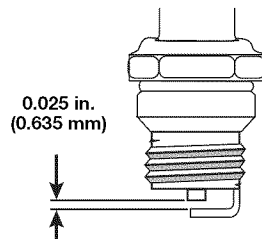

Fig. 37
4. Replace cracked, fouled or dirty spark plug. Set the air gap at 0.025 in. (0.635 mm.) using a feeler gauge (Fig. 37).